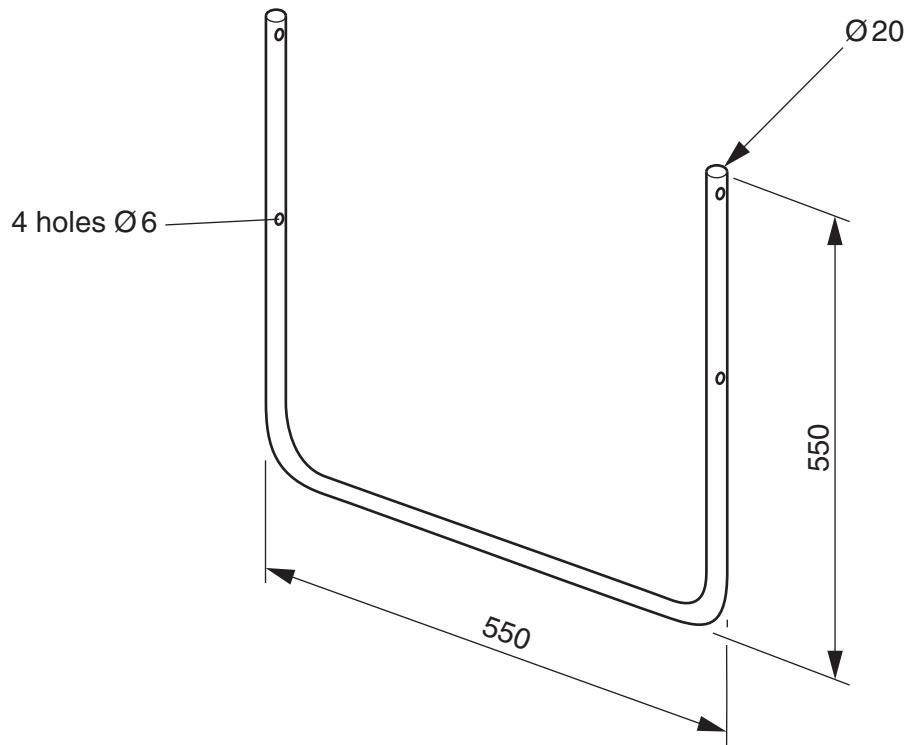

Fig. 7
Fig. 7 shows one of the legs from the picnic table.
- (e) (i) State a **suitable specific material** for the leg shown in Fig. 7.
- (ii) Describe, in detail, how the leg shown in Fig. 7 would be manufactured as a batch of 10 000.